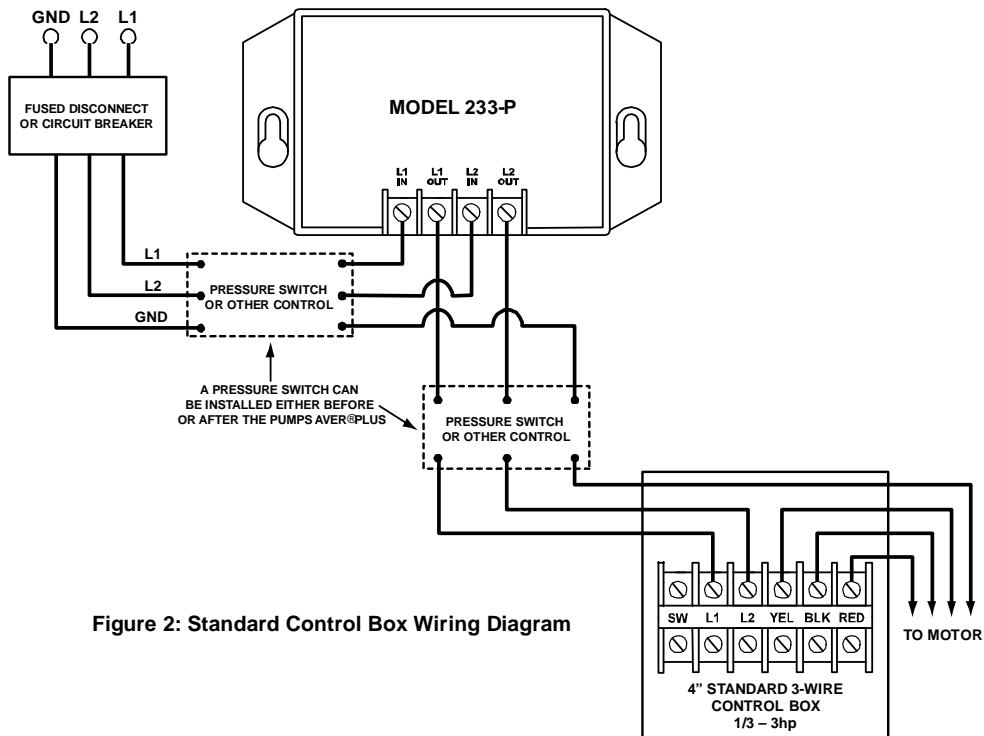

Figure 2: Standard Control Box Wiring Diagram
- Standard 3-wire control box – Figure 2